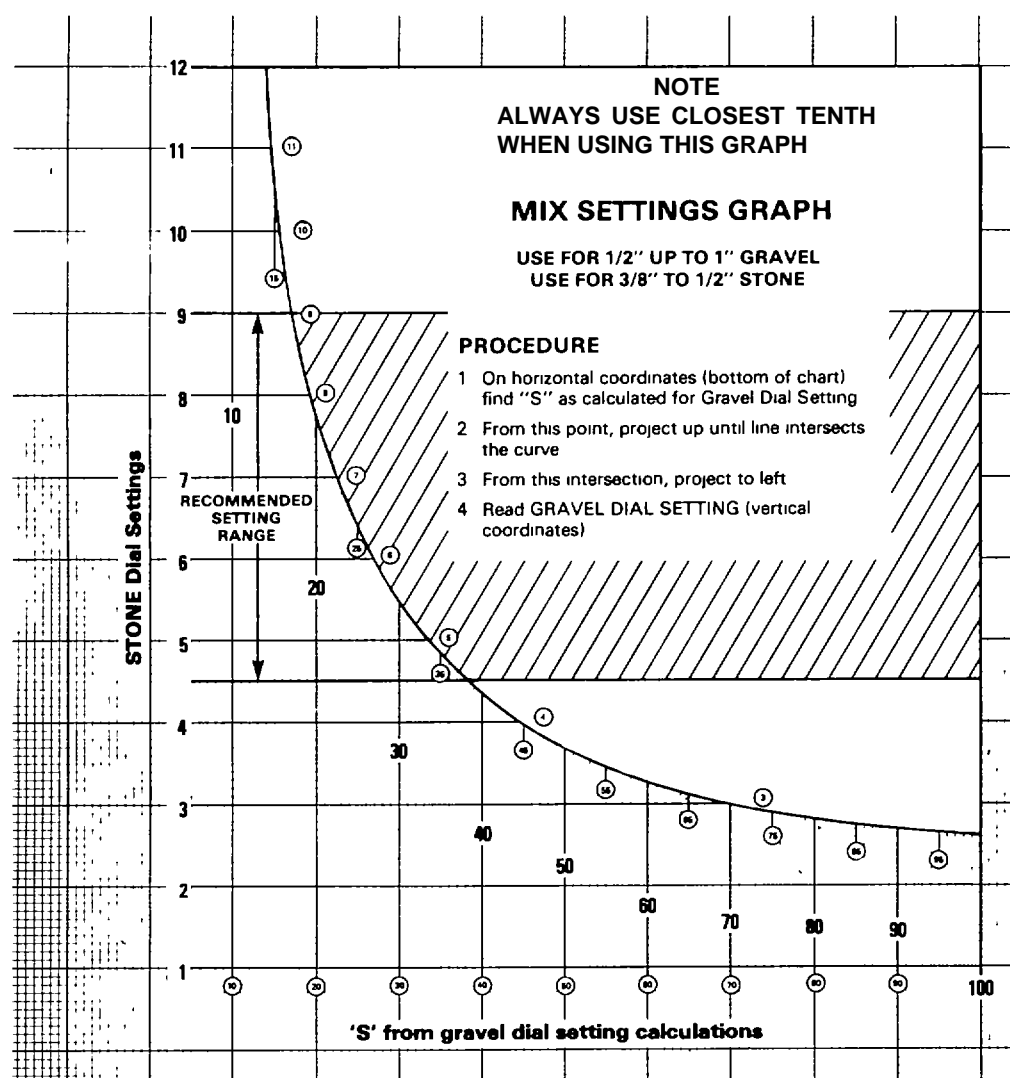

Figure 2-4. Stone Dial Setting Graph.
- (b) Figure 2-4 - For 1/2 in. up to 1 in. gravel or 3/8 in. to 1/2 in. crushed stone.